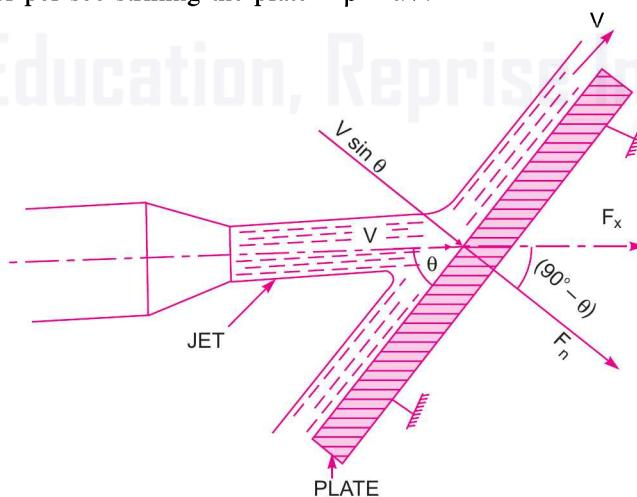

Fig. 17.2 Jet striking stationary inclined plate.
**17.2.1 Force Exerted by a Jet on Stationary Inclined Flat Plate.** Let a jet of water, coming out from the nozzle, strikes an inclined flat plate as shown in Fig. 17.2.